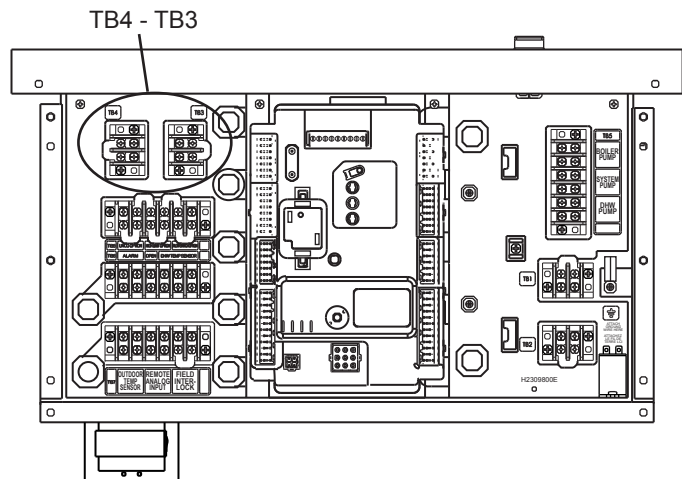

Fig. B1-4 - Check for 24V AC between TB4 and TB3
- Check for 24V AC between terminal blocks TB-3 and TB-4. See Fig. B1-4. If 24V AC is present here, this means that the unit is getting line voltage, and the main power switch and transformer are working correctly.